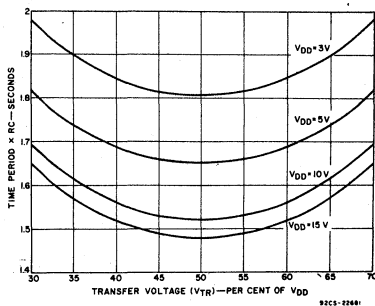

Fig. 3—Discrete RC oscillator time period as a function of transfer voltage.
Equation (1) shows that the period of the multivibrator, T, is sensitive to changes in  $V_{DD}$ , as illustrated by the graph of time period, T, vs transfer voltage as a function of  $V_{DD}$  in Fig. 3. In addition to the strong dependence of actual time period on the  $V_{DD}$  chosen, the graph also illustrates that, for a given  $V_{DD}$ , a full transfer voltage spread of 30 to 70 per cent of  $V_{DD}$  (unit-to-unit worst-case variations) yields a change in time period of about 10 per cent from the nominal 50-per-cent transfer-voltage percentage values.